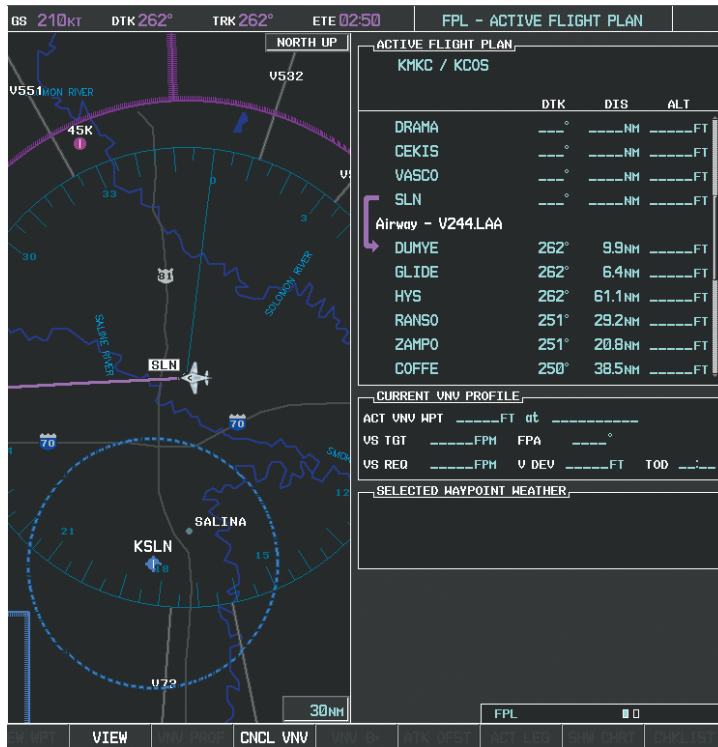

Figure 5-125 V244 Now Active Leg
9) As seen in Figure 5-125, V244 is now the active flight plan leg.